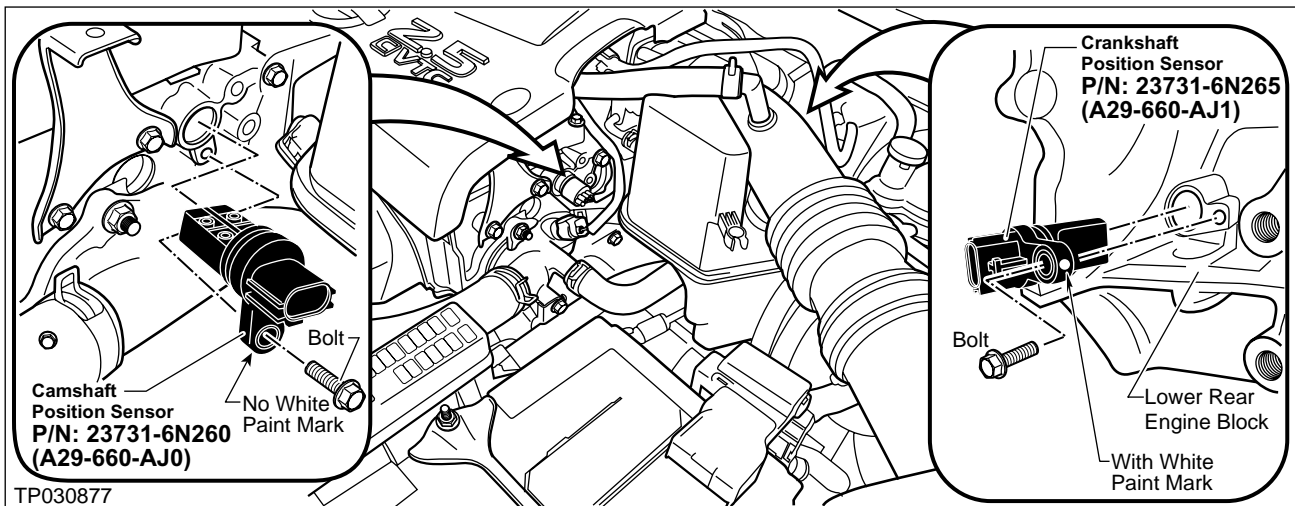

Figure 7
* This sensor has a white paint mark on it (see Figure 7).
3. Locate the **Camshaft Position Sensor** and **Crankshaft Position Sensor** (see Figure 7).